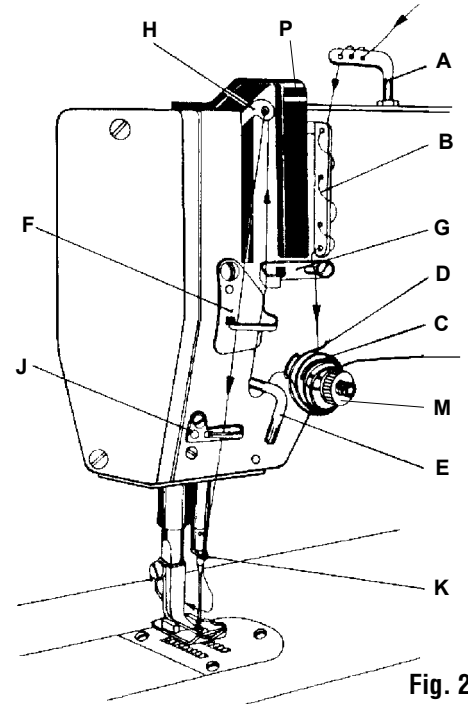
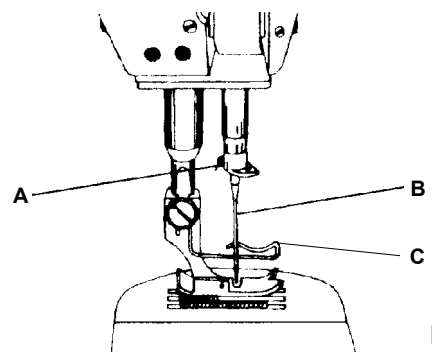

Fig. 2
Fig. 4
Do not use this sewing machine without using the finger guard (C, Fig. 4) and without the take-up lever guard (P, Fig. 2).
6.3 Needle insertion (Fig. 4)
The tension of the upper and that of the bottom thread must be mutually adjusted in such a way, so that the stitch locking is being done in the middle of the sewn material (Fig. 5). The tension of the upper thread is to be adjusted by turning a bit the nut of the tensioner (M, Fig. 2). In turning the nut to the right (in the clockwise direction), we increase the tension of the upper thread, in turning it in the opposite direction, we reduce the tension of the thread.